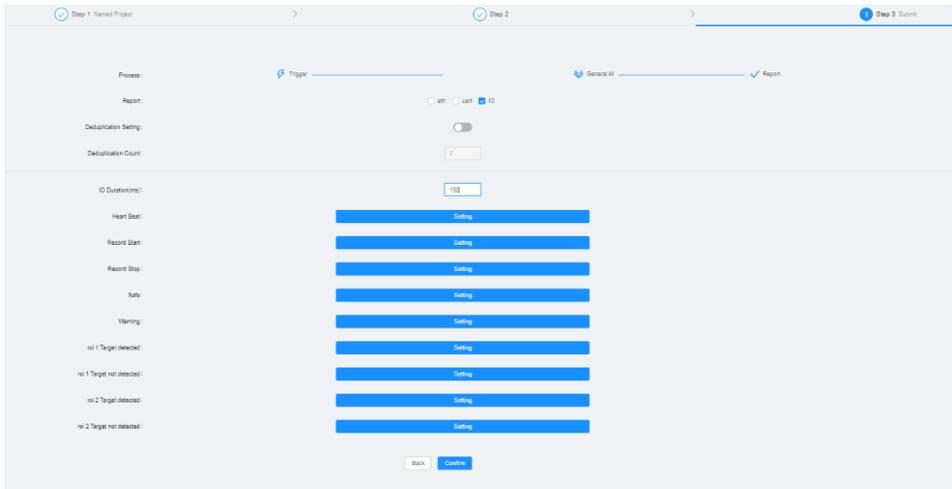

Figure 5.9 Submission Screen
Step3: Submit. Selecting IO as the result output, as shown in Figure 5.9. **The duration of IO set here needs to be longer, no less than 100ms. Otherwise, it can cause confusion in robot IO reception.** The IO output can be achieved by corresponding ROI.1 to GPO1 and ROI.2 to GPO2, as shown in Figure 5.10.